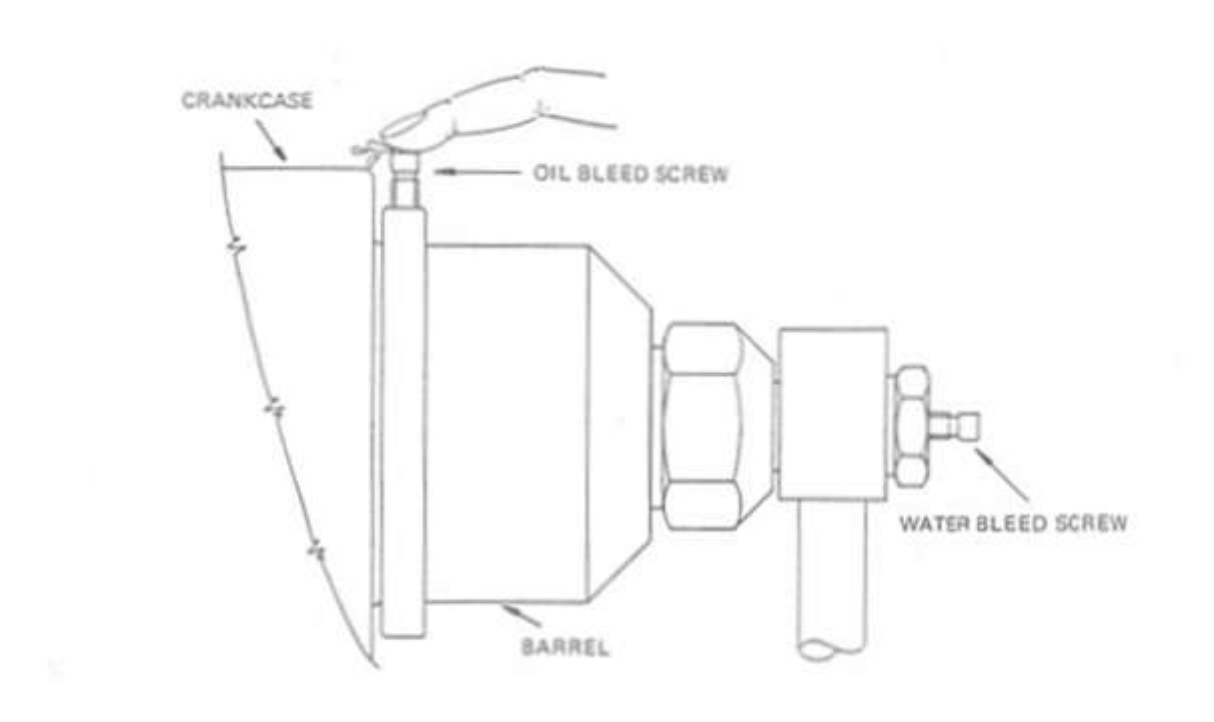

Fig 3.1 Bleeding the pump
- 3) With reference to Fig 3.1, put a finger on top of an oil bleed screw on a lower barrel and open the screw slowly using a suitable spanner. When air-free oil flows, tighten the bleed screw firmly.
- 2) The pump is self-priming. If, however, any difficulty is experienced, stop engine, loosen the upper bleed nipples and allow water to flow from each nipple (ensure that the header tank remains full). Tighten nipples and repeat the procedure detailed in sub-para (1). To identify the bleed nipples, refer to Fig 3.1.